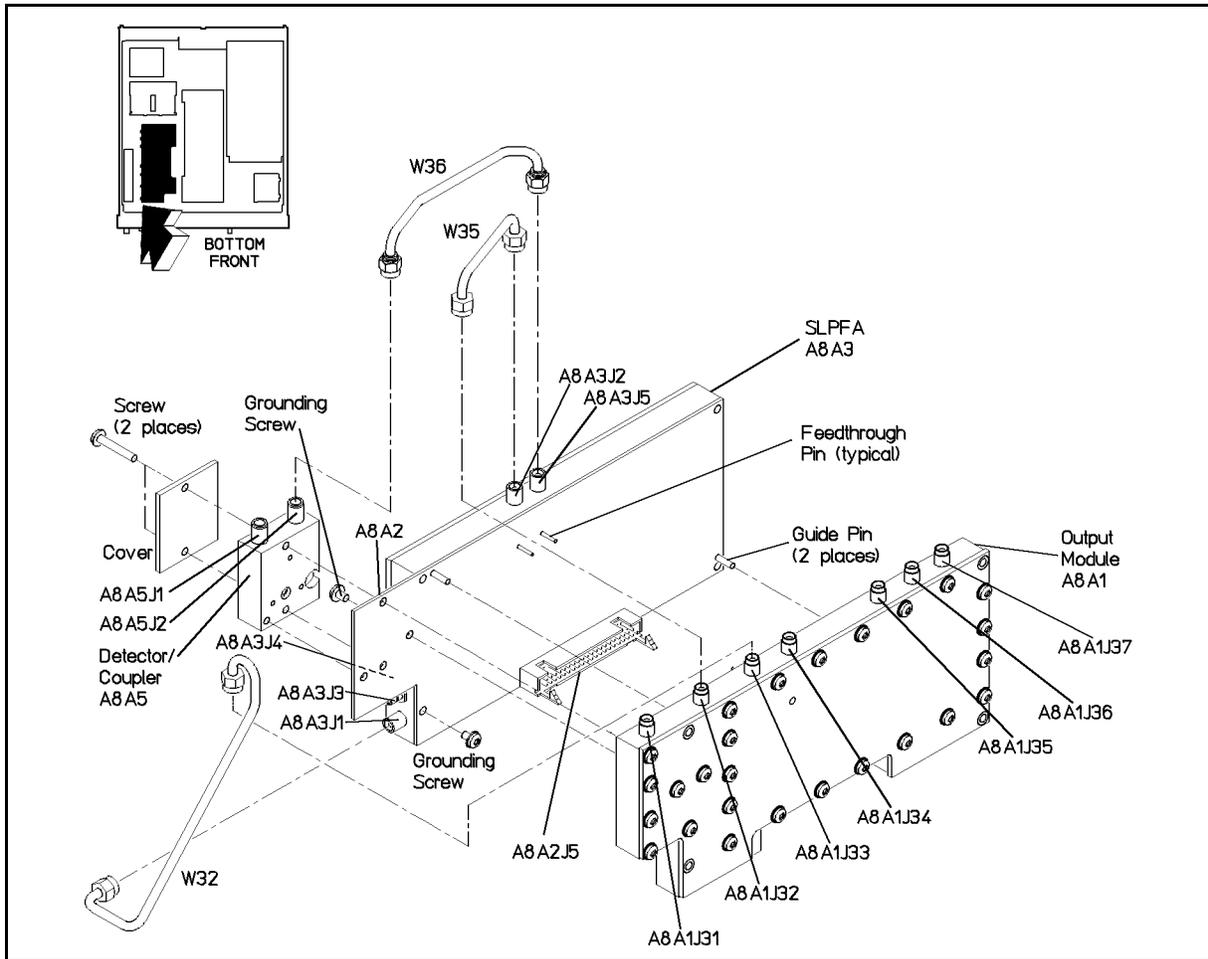

Figure 5-29. Output Module, SLPFA Module, and Coupler/Detector Separation
1. Refer to “Semi-Rigid Coaxial Cables” and Figure 5-29. Then, using a 5/16 in open end wrench, remove W36 connecting the SLPFA Module 0.01–1 GHz IN to the coupler/detector.
2. With the SLPFA module facing downwards, use a size 10 TORX® screwdriver to remove the single TORX® screw on the exposed portion of the printed circuit board, A8A3. See Figure 5-29.
4. Using a size 10 TORX® screwdriver, remove the two screws from the coupler/detector and metal cover. See Figure 5-29.
1. Refer to “Semi-Rigid Coaxial Cables” and Figure 5-29. Then, using a 5/16 in open end wrench, remove the following semi-rigid coaxial cables:
2. With a size 10 TORX® screwdriver, remove the single TORX® screw on the exposed portion of the printed circuit board, A8A3. See Figure 5-29.
7. Refer to “Semi-Rigid Coaxial Cables” and Figure 5-29. Then, connect and hand tighten the following Semi-Rigid Coaxial Cables: